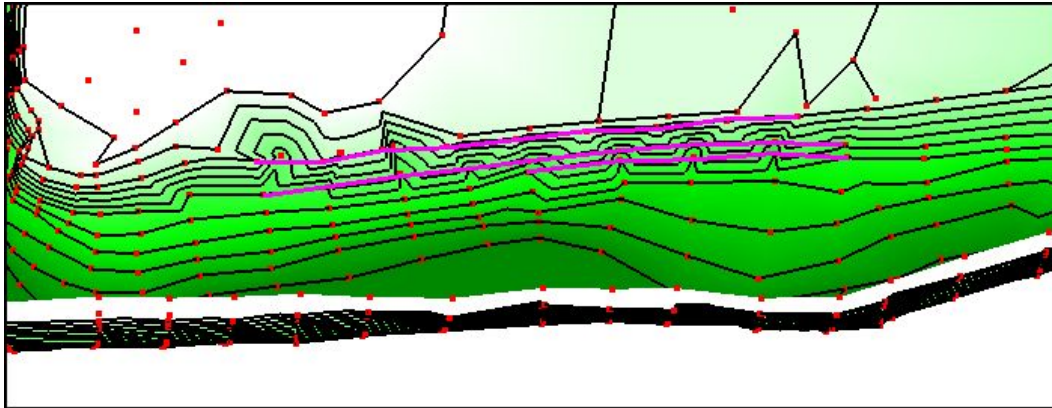

Figure 9 Connectivity for breaklines on the bank..
7. Using the *Create Scatter Breakline* tool, add breaklines along the bank of the channel. Do this by clicking on the scatter points with common elevations as shown in Figure 9 (This illustrates three separate breaklines). End a breakline with double clicking on the last point.